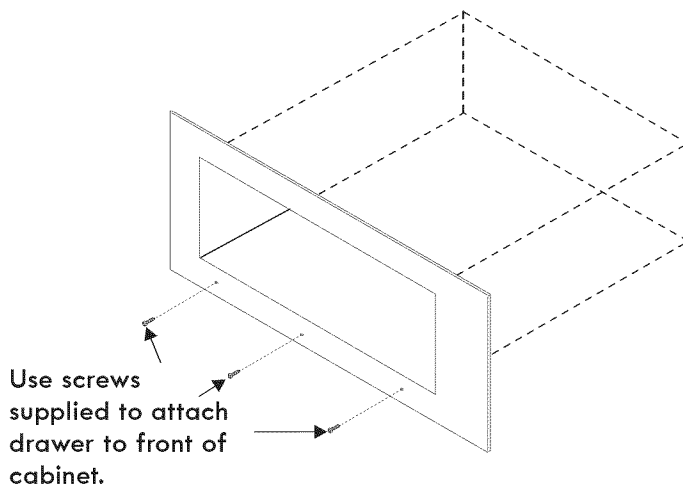

Figure 2
3. Remove the drawer as instructed in the Use & Care Guide and secure drawer housing to cabinet using the 3 nickel-plated screws supplied (see Figure 2). Do not overtighten screws.